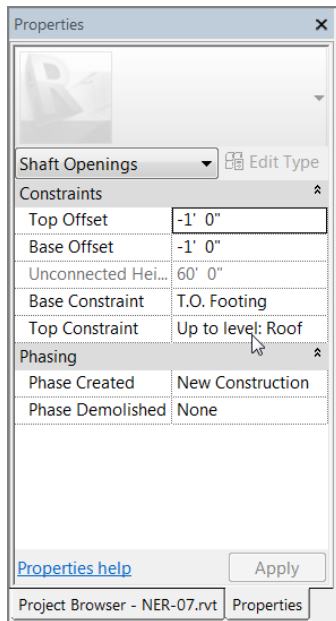

FIGURE 6.57: Setting the properties of the shaft opening
1. In the Properties dialog box, make sure Shaft Openings is selected, as shown in Figure 6.57.
5. Click Apply. Figure 6.57 shows the settings.